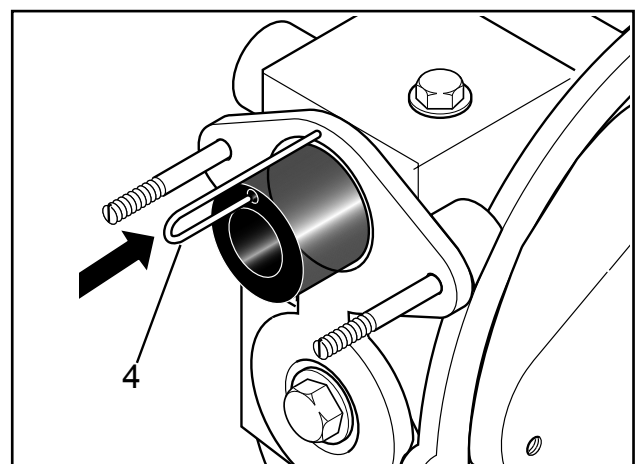
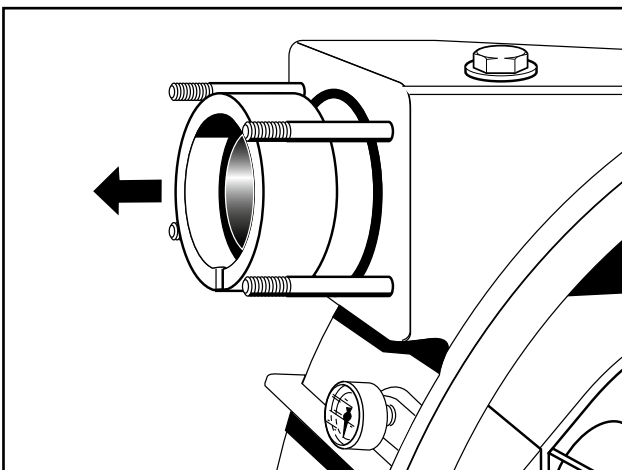

Fig. 15 4 Position of ventilation pipe
Fig. 17 Disassembly of clamping ring pack
6. Then remove the ventilation pipes from the suction and discharge side (Fig. 15 and 16). Remove retaining ring, clamp ring, stepped ring and O-ring from the pump hose (Fig. 17).